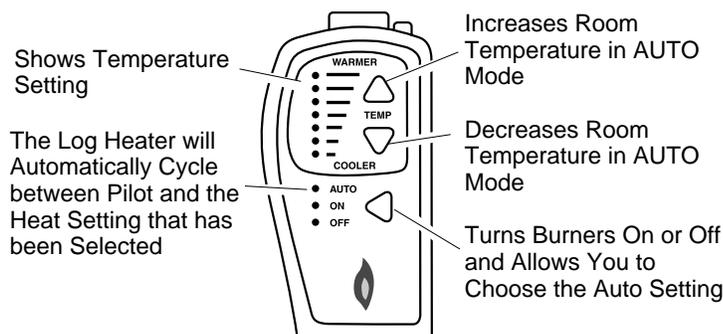

Figure 58 - Thermostat Hand-Held Remote Control Unit Selections (GHRCTA Series Only)
- 2b. Press the AUTO/ON/OFF button on the hand-held remote control (see Figure 58). The lights to the left of the button will show AUTO, ON, or OFF.